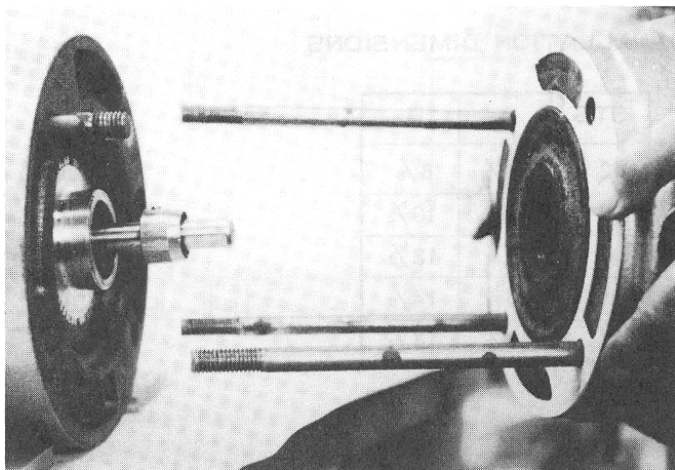

Figure 6
10. Place a diffuser gasket on pump base and position pump base on diffuser casing stack by sliding the stud bolts into the diffuser stud bolt holes (see Figure 6). While doing so, make certain that the cut out sections of the diffuser gasket match the corresponding sections cast into the bottom diffuser casing.